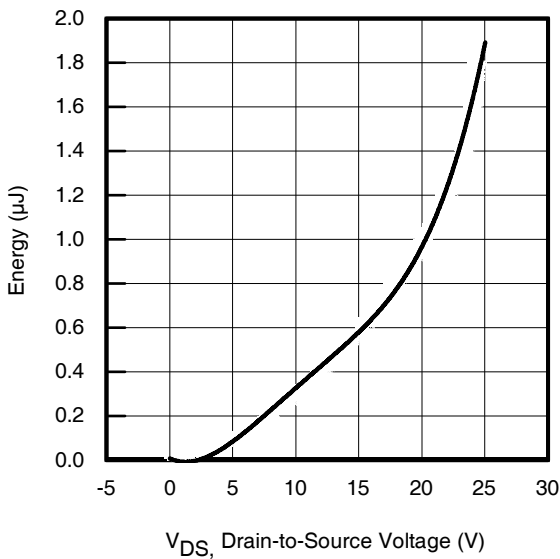

Fig 11. Typical C_{OSS} Stored Energy
| C _{oss eff. (ER)} | Effective Output Capacitance (Energy Related) | — | 4700 | — | | V _{GS} = 0V, V _{DS} = 0V to 19V ^⑦ , See Fig. 11 |